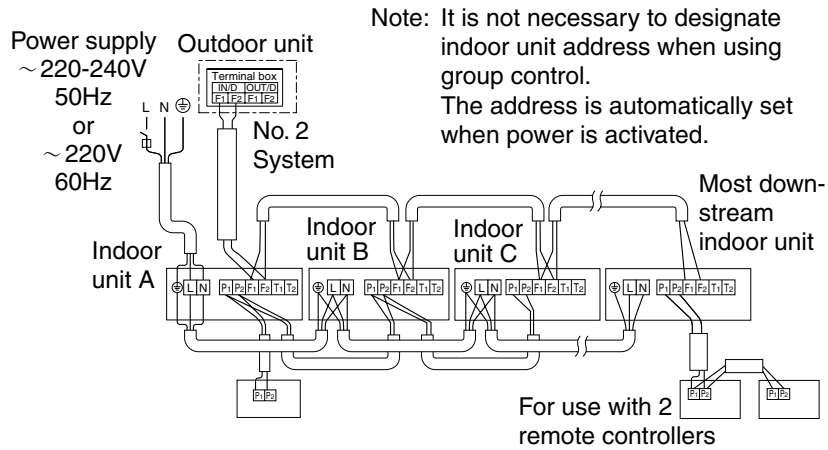

Fig. 30
- (3) Remove the terminal box lid
- (4) **Add remote control 2 (slave) to the terminal block for remote controller (P1, P2) in the terminal box. (There is no polarity.) (Refer to Fig. 30 and 8-3.)**